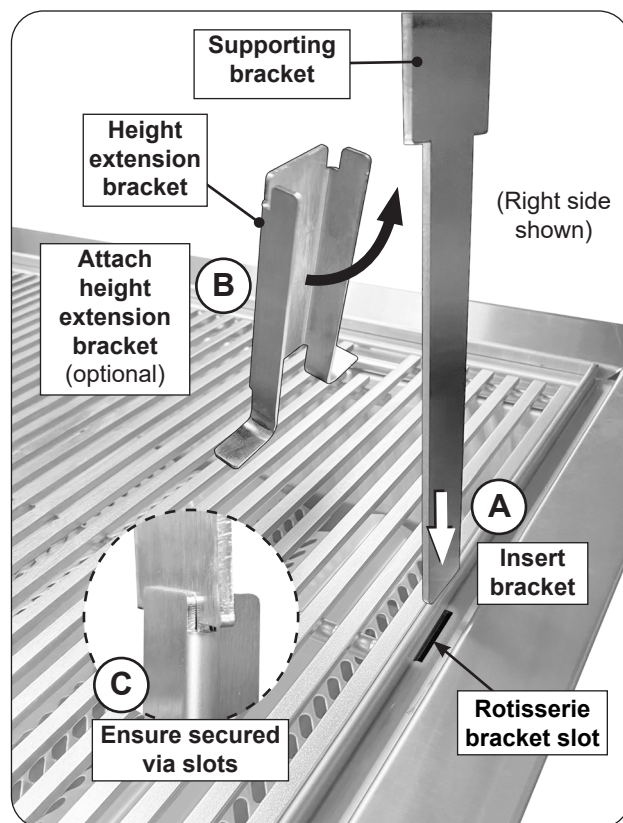
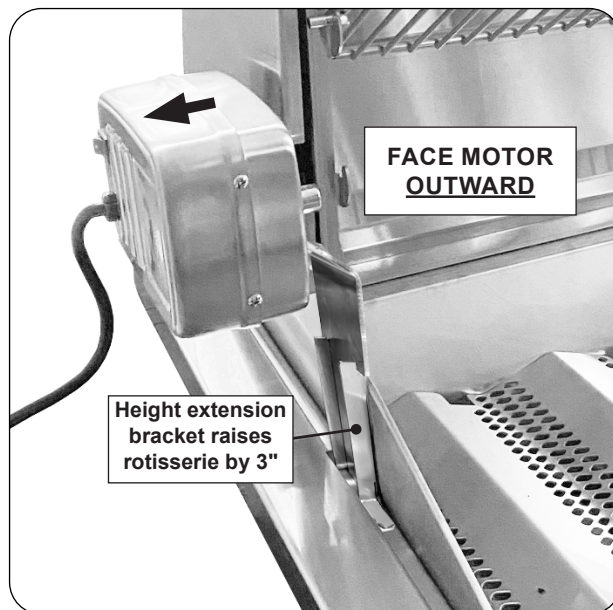

Fig. 2-1 Install brackets
Fig. 2-2 Installation detail
1. Slide the rotisserie motor with pre-installed support bracket into the rotisserie slot on the **left** side of your grill. See Fig. 2-1, A for reference.
Note: Ensure the motor and cord are facing outward away from the grill as shown in Fig. 2-2.
2. Lift a supporting bracket slightly, and install a height extension bracket. See Fig. 2-1, A and B.
3. Ensure that both brackets are fully inserted and secured into the extension bracket slots. See Fig. 2-1, C and Fig. 2-2.